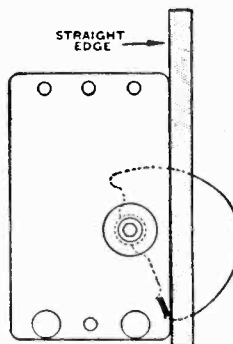

Fig. 1
3. See illustration (Fig. 1). Place straight-edge gauge in vertical position with the long flat face against the front mounting plate of the variable condenser as shown. Turn the condenser until the front edge of the rotor spacing bar just touches the straight edge. Hold the condenser in this position and move the pointer arm so the pointer is at 1562 KC, after which tighten the set screws to hold the dial gear securely.